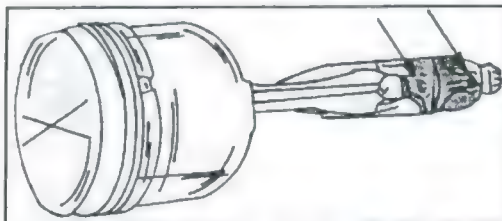

Fig. 1.30 - Connecting rods and bearing caps can be marked with a centre punch as shown.
- Mark each piston and the connecting rod before removal with the cylinder number. This can be carried out by writing the cylinder number with paint onto the piston crown. Also mark an arrow, facing towards the front of the engine (the arrow in the piston crown will be covered by the carbon deposits). When removing the connecting rod, note the correct installation of the big end bearing cap. Immediately after removal mark the connecting rod and the big end bearing cap on the same side. This is best done with a centre punch (cylinder No. 1 one punch mark, etc., see Fig. 1.30).
- Piston pins and small end bushes must be checked for wear or seizure. One individual connecting rod can be replaced, provided that a rod of the same weight group is fitted. Connecting rods are marked with either one or two punch marks (arrow, Fig. 1.30) and only a rod with the same mark must be fitted.